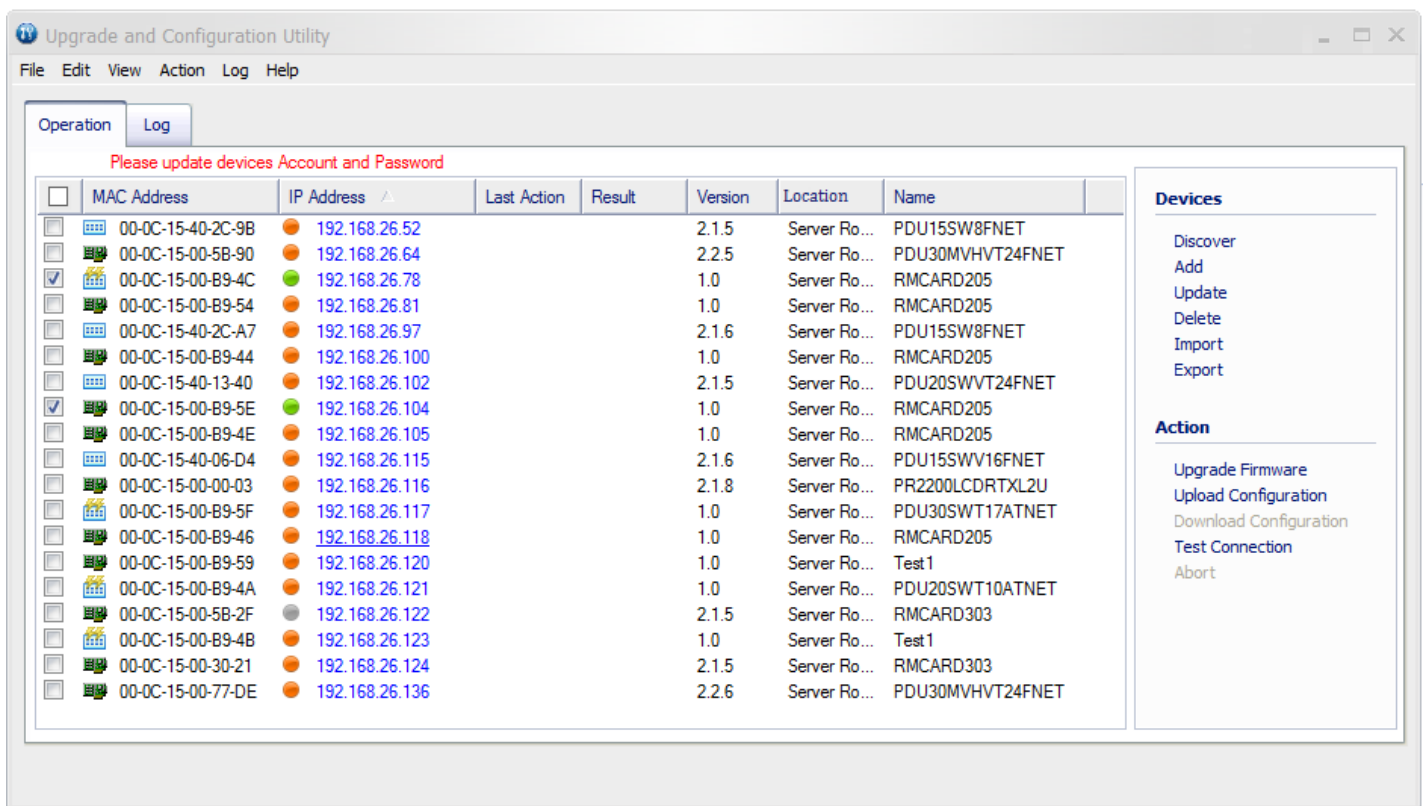

Figure 5. The main window of the “Upgrade and Configuration Utility” program.
3. The main dialog of the Upgrade and Configuration Utility tool program is shown in Figure 5. The configuration tool will display all CyberPower Remote Management devices present on the same network subnet. The "Discover" button is used to search the local network subnet again.